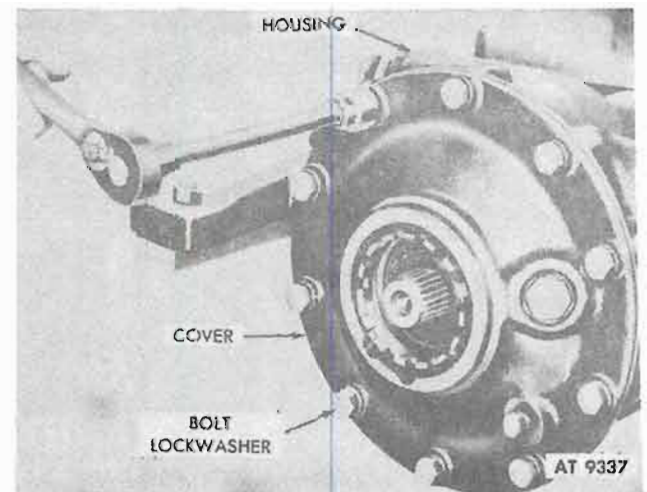

Figure 12-6. Housing Cover Plate Retaining Bolts and Lockwashers.
g. Remove ten housing cover plate bolts and lockwashers retaining cover to housing (fig. 12-6).
Page 12-4. Figure 12-6 is superseded as follows:
b. Install cover and bearing cups. Refer to figure 12-6.
i. Remove differential cover, do not disturb mark, refer to figure 12-6.
d. Torque differential cover bolts to 25-30 lb-ft. Refer to figure 12-6.
k. Remove housing cover bolts. Refer to figure 12-6.
b. Install ten housing cover retaining bolts. Refer to figure 12-6.